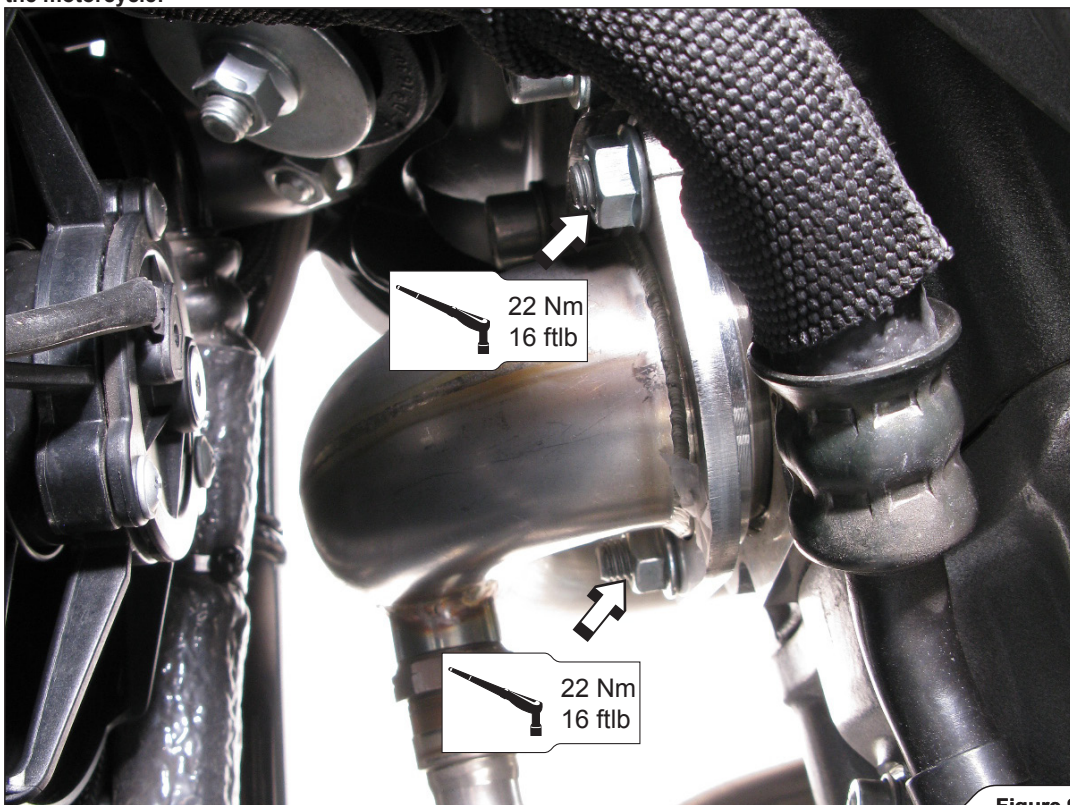

Figure 9
9. Align the header pipes and tighten both headers' flanges to the specified torque **(Figure 9, 10)**.